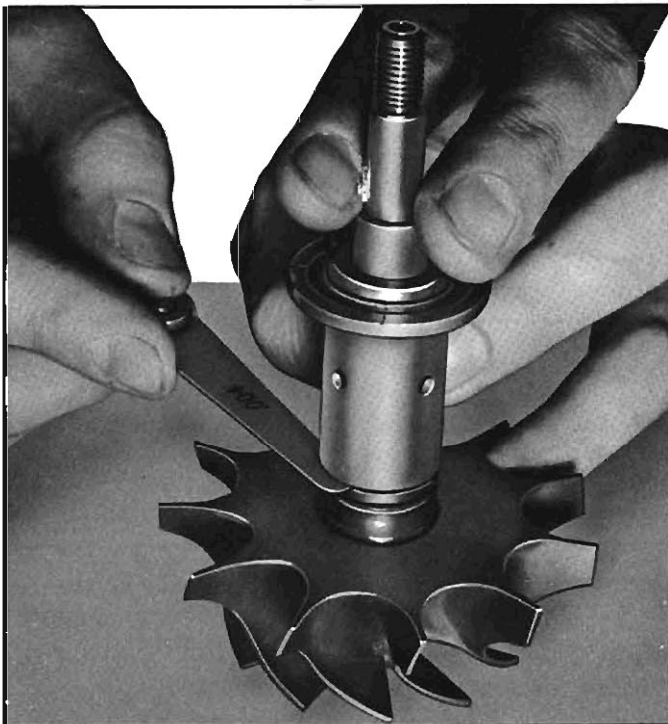

Fig. 47—Measuring Bearing-to-Shaft End Play
- b. Hold the mating ring against the shoulder on the turbine shaft, then hold the bearing up against the mating ring and measure the clearance between the bearing and lower shoulder of the shaft using a feeler gauge (fig. 47).